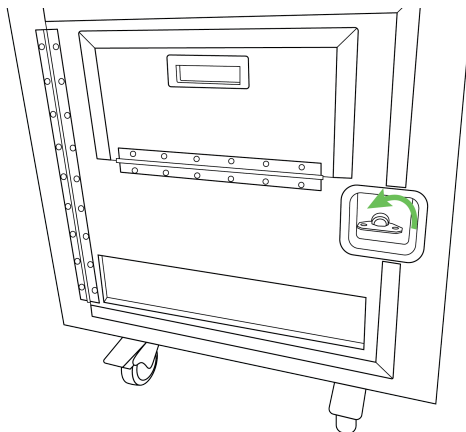

Figure 6-38. The front door and butterfly latch
4. Unlatch the door on the front of the ClearAccess setup box (Figure 6-38):